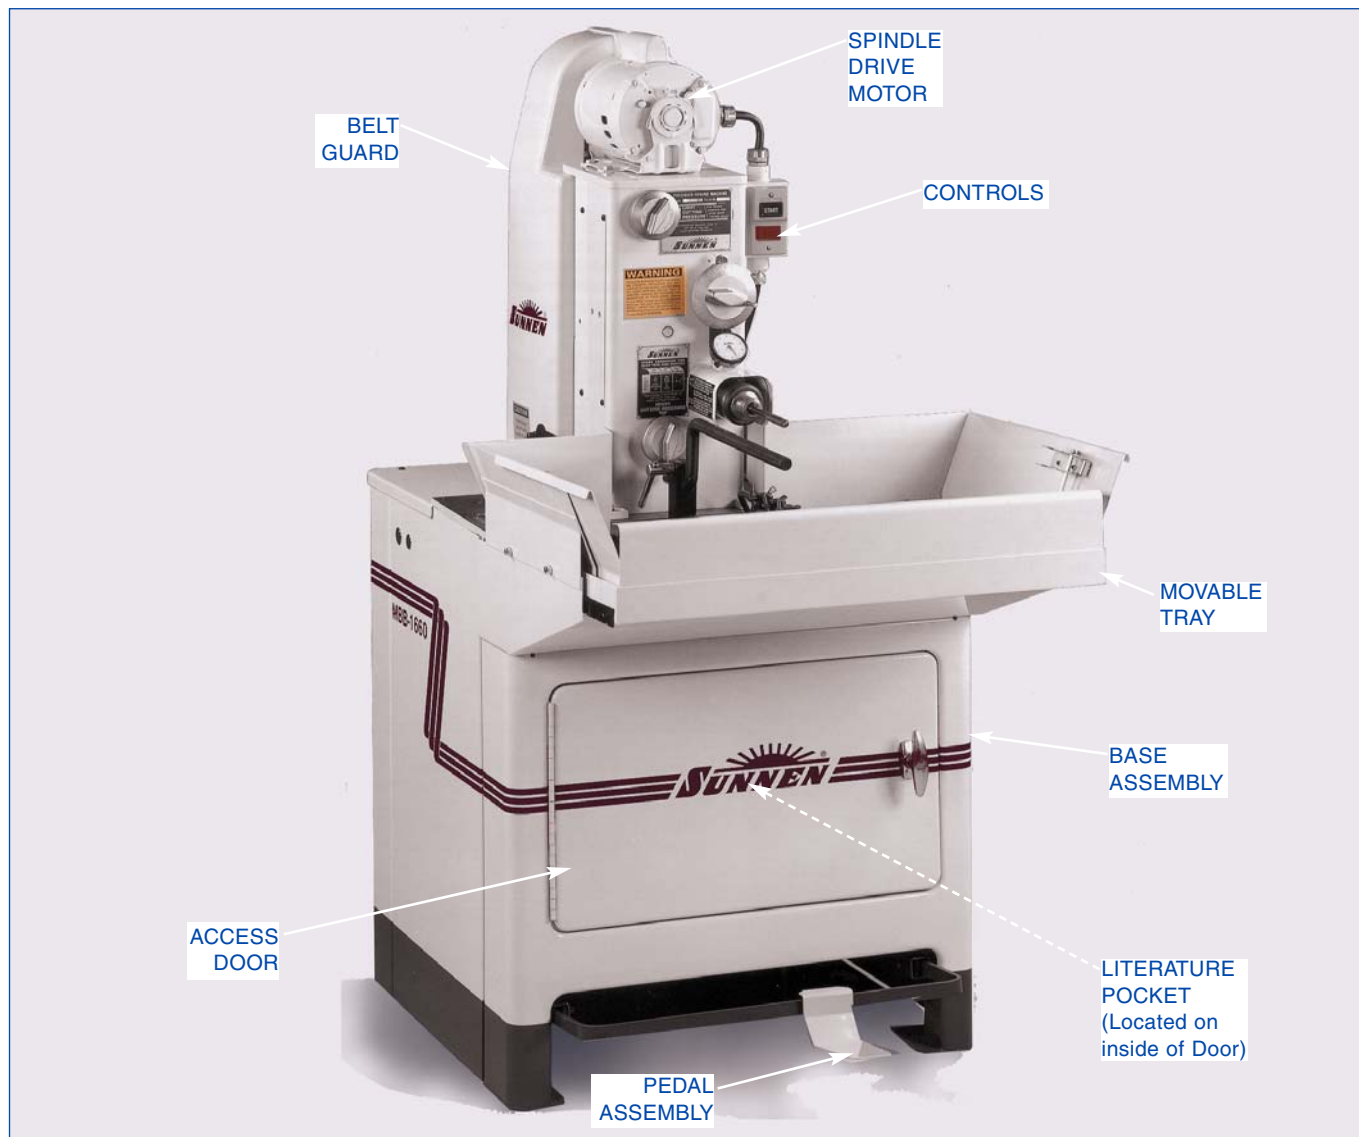

FIGURE 2-1, Major Components
For location of major components on machine see Figure 2-1. (All directional references are as viewing assembly from left side of machine.)
1. BASE ASSEMBLY. Base Assembly consists of following components (refer to Figure 2-1):